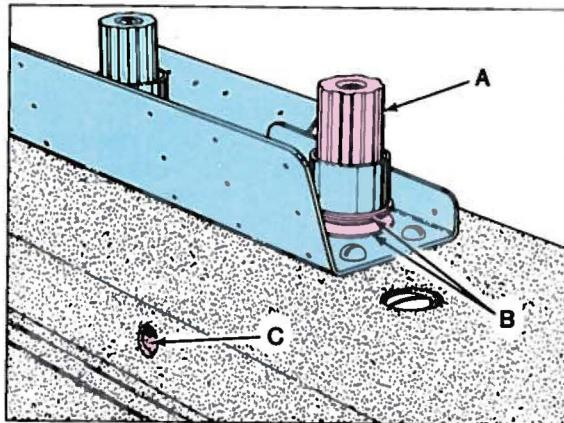

Fig. 19
Needle thread tension assembly (A, Fig. 19) is set correctly when the tension discs (B) start to release as the presser foot is raised to within  $1/8$  inch (3.2mm) of the end of its travel and completely released when presser foot has reached its highest position.